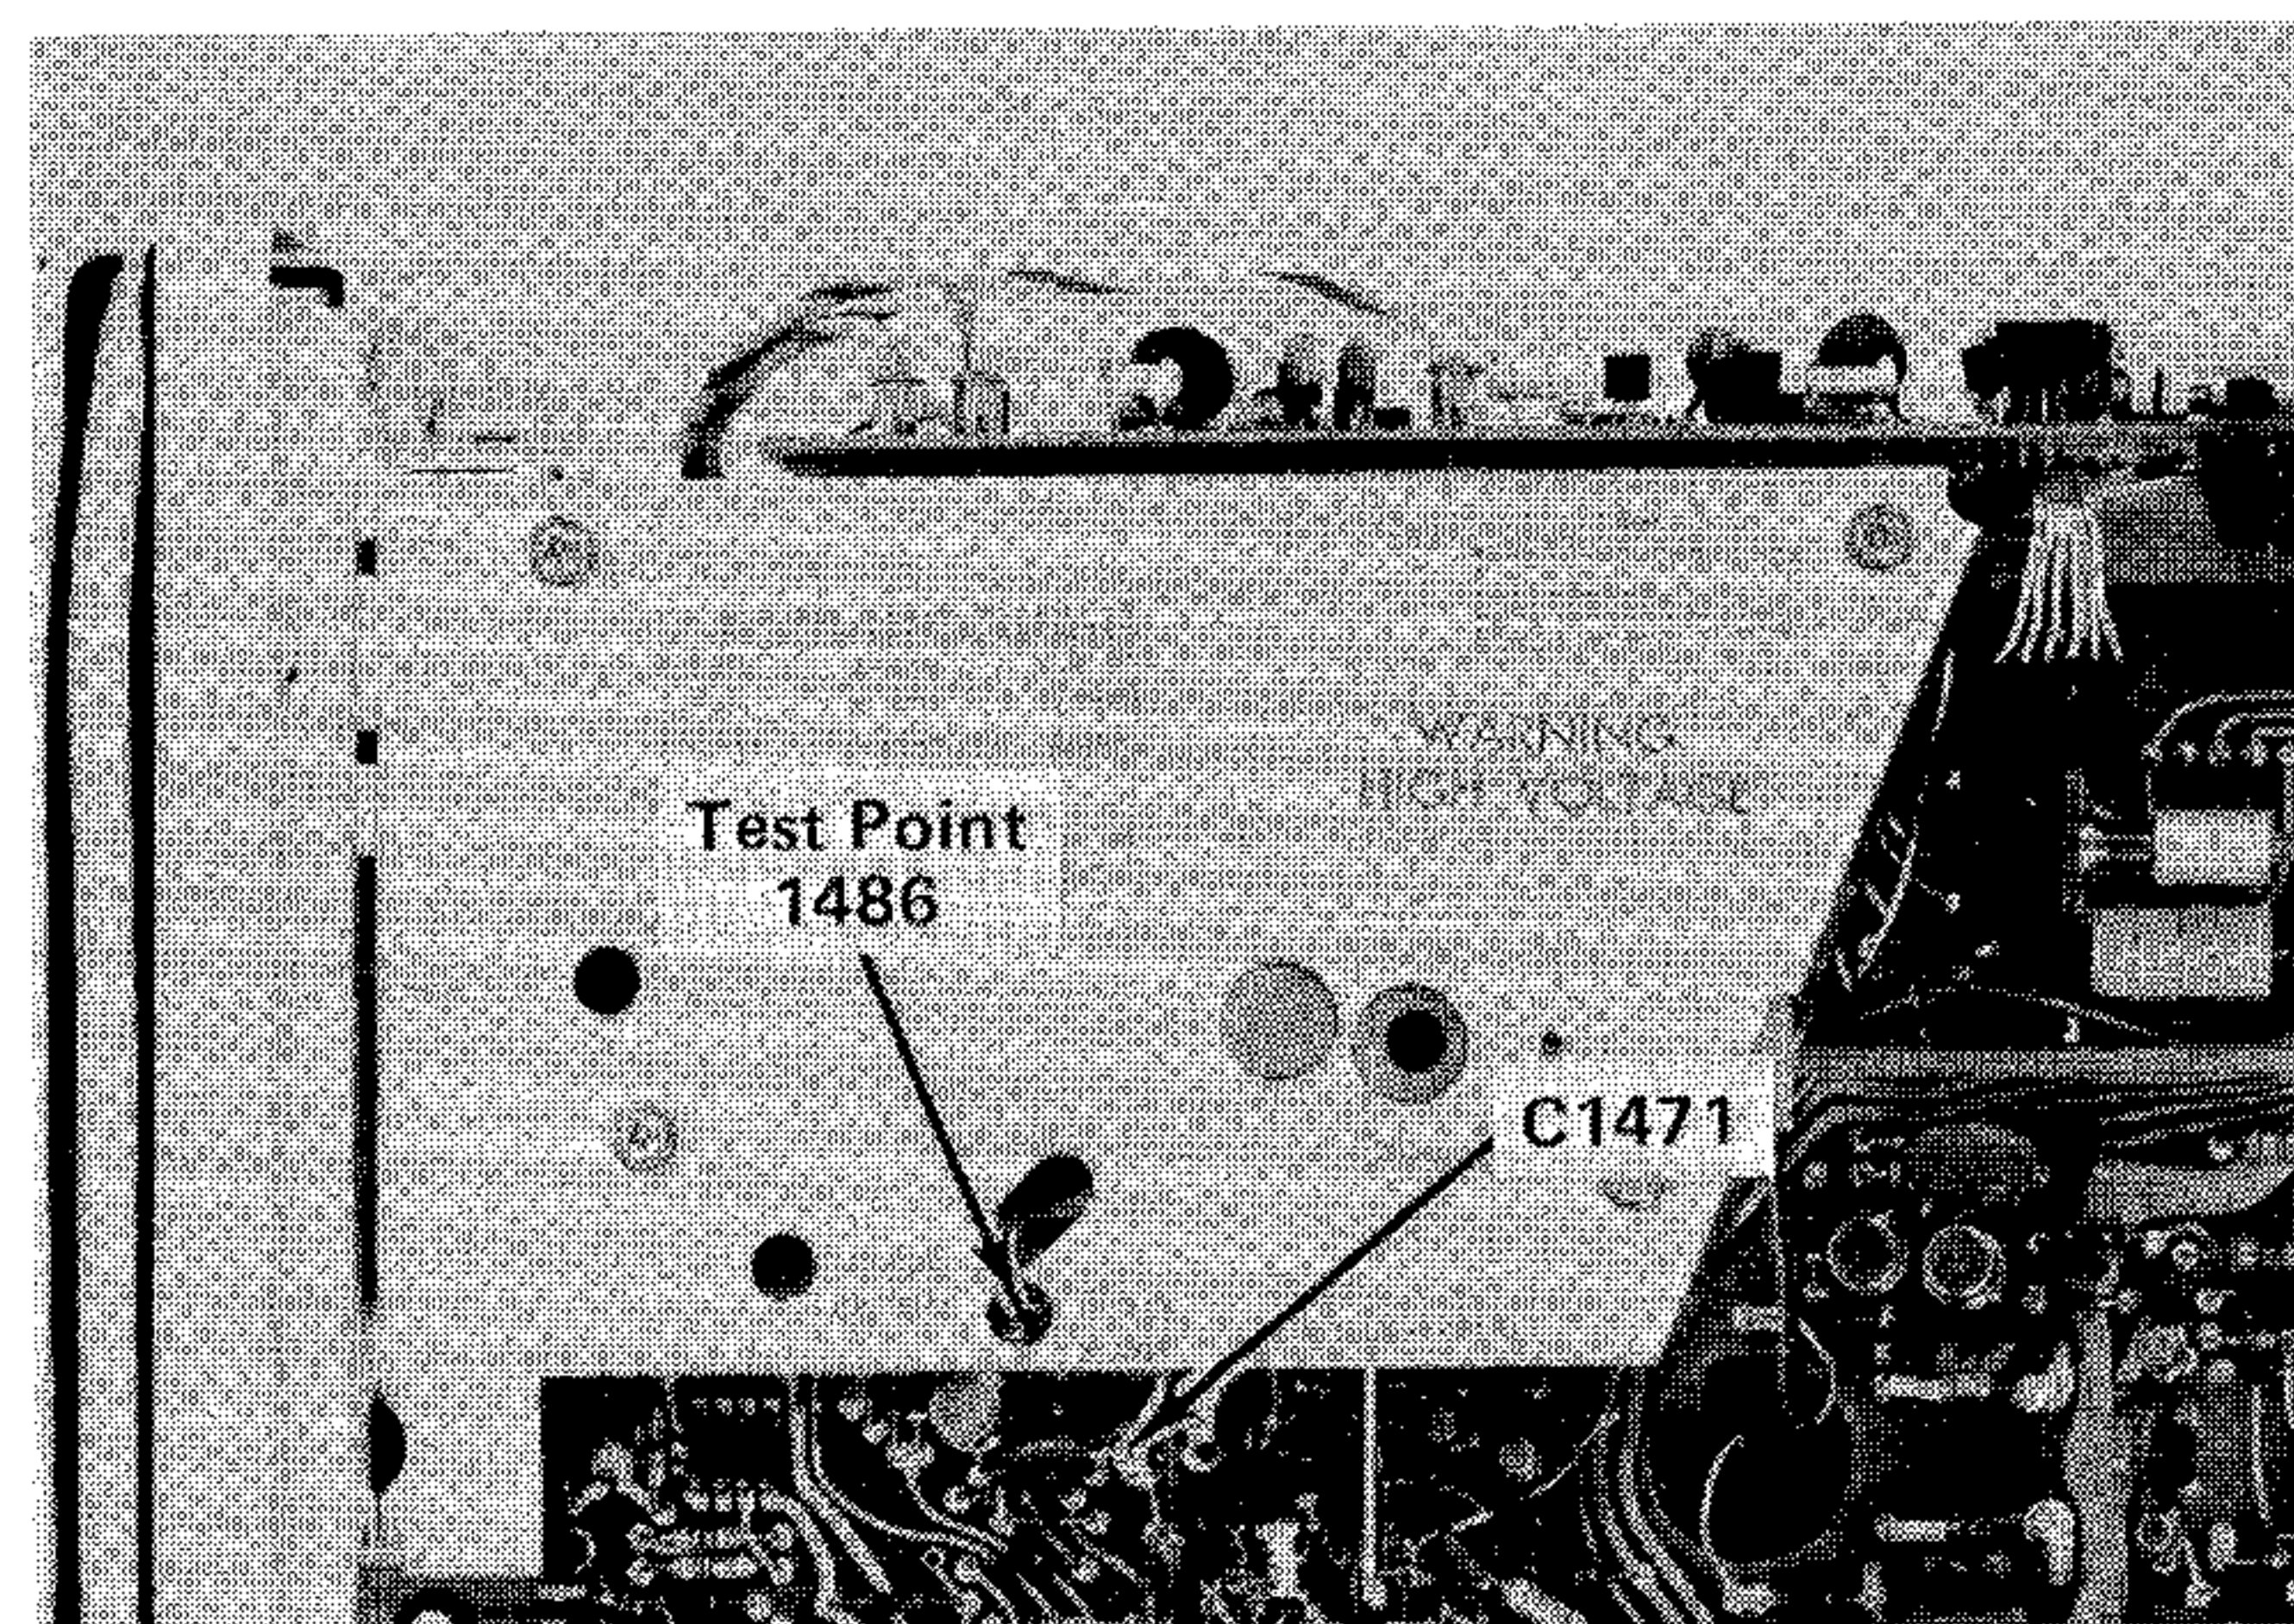

Fig. 5-6. Location of Z-Axis compensation adjustment and test point 1486.
- Connect the X10 probe from the Test Oscilloscope to TP1486 (see Fig. 5-6).
- ADJUST—Z-Axis Compensation adjustment, C1471, using low capacitance screwdriver, (see Fig. 5-6) for optimum square corner on the unblanking gate.